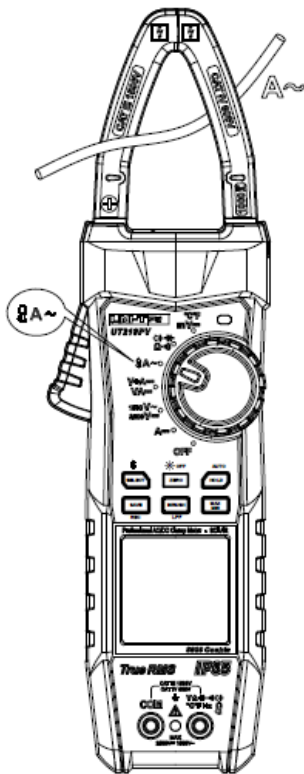

Figure 8
4. AC current measurement (Clamp jaws and flex current sensor) (Figure 8 & Figure 9)